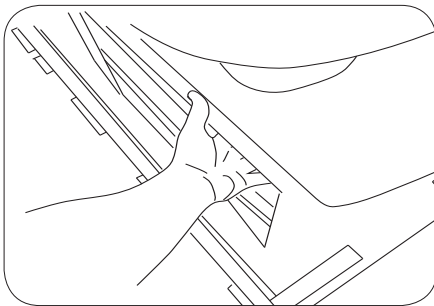

Figure 17. Left rear hand hold
17. Rear lifting points are provided by the top rear pass through drawer openings at the left and right sides (Figures 17, 18, and 19).